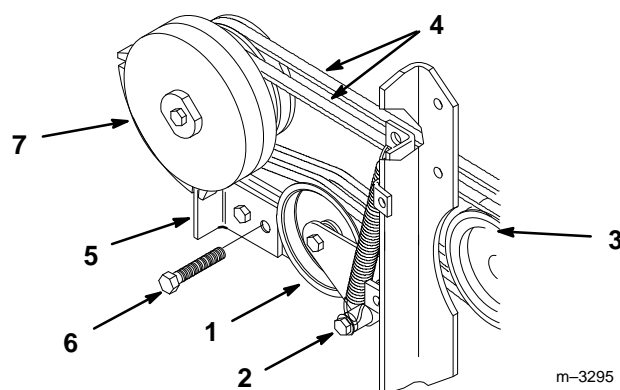

Figure 47
1. Hold spring loaded idler against belts and pull spring down to remove from lower bolt mount (Fig. 47).
2. Lower idler to relax tension on PTO belts and remove belts from gear box pulley (Fig. 47).
3. Remove clutch stop mounting bolts and unplug clutch wire harness (Fig. 47). Remove belts over clutch.
5. Hold spring loaded idler against belts and pull spring down to install on lower bolt mount (Fig. 47).
6. Install clutch stop (Fig. 47). Tighten mounting bolts securely.